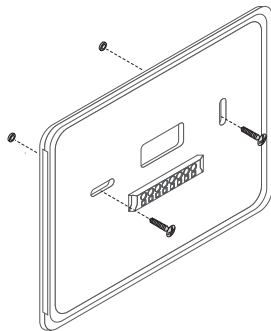

Figure 4: Mounting the Base
2. Mount the base to the wall with the included wall anchors and screws. Refer to Figure 4.